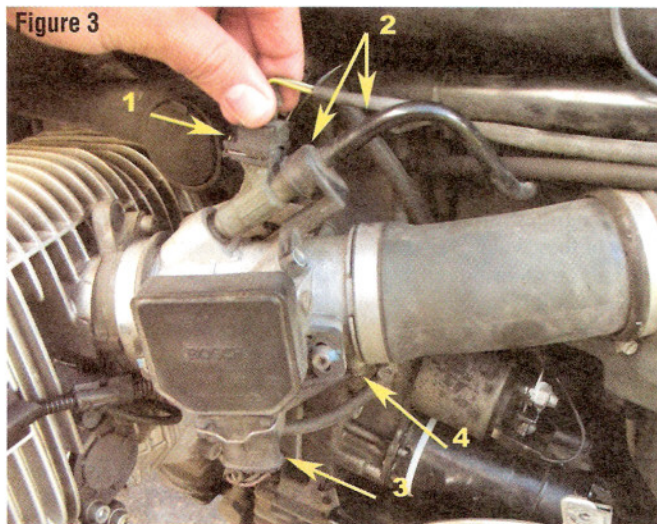

Figure 3
The "Cutter Method" procedure described herein involves an absolute minimum of disassembly to get this job done, unlike several online articles which are much more involved and time consuming. Please refer to your Oilhead's service manual for reference, and see Figure 3 with numbers for each step required. The bike should be on the centerstand or a lift if possible. The first step in the process is to disconnect the fuel injector's electrical connector (1). Next, we disconnect the fuel line retainer spring clip, fuel line, and fuel line bracket (2). Note: If the fuel injector's O-ring stays in the fuel line's end cup when taking the fuel line off, gently remove it with a blunt object and put it back on the fuel injector body for later reassembly.